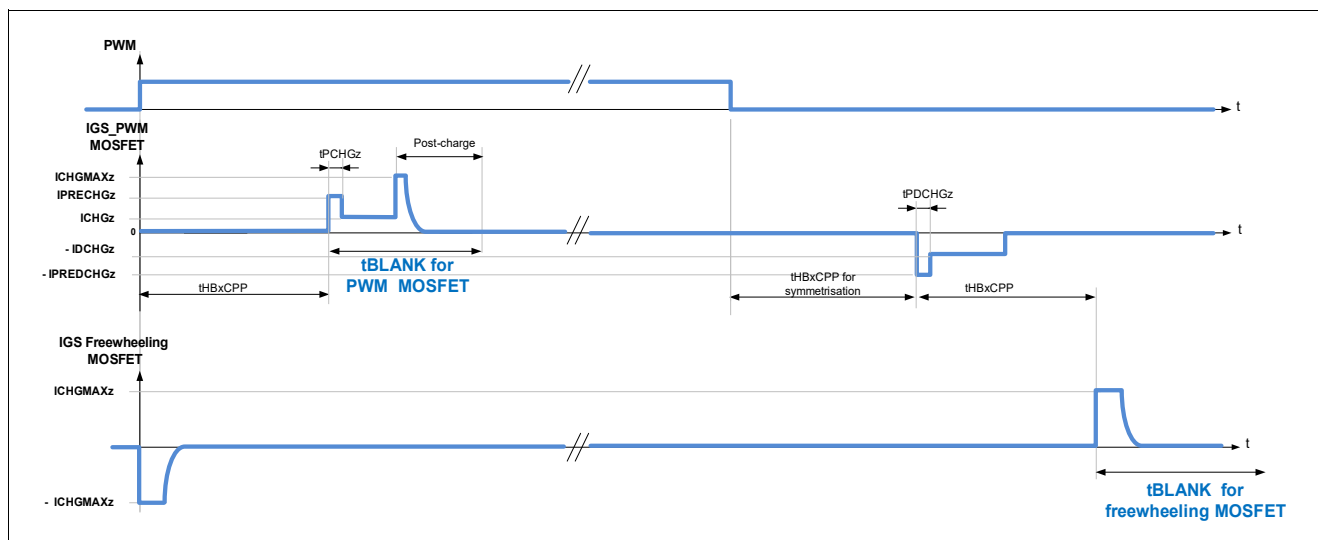

Figure 77 Blank time for half-bridges in PWM operation with $AFW = 1$
- the blank time of the PWM MOSFET starts at the expiration of the cross-current protection time of the PWM MOSFET. Refer to **Figure 77**.
- the blank time of the free-wheeling MOSFET starts after expiration of the cross-current protection time at turn-off of the PWM MOSFET. Refer to **Figure 77**.